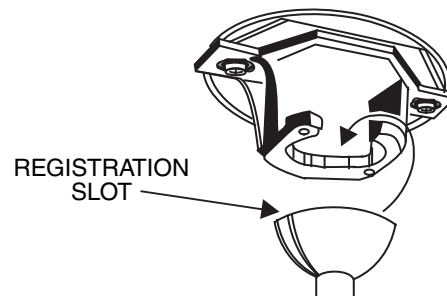

FIGURE 7
7. Place the downrod ball into the hanger bracket socket. This will allow you to make the electrical connections. (Fig. 7)